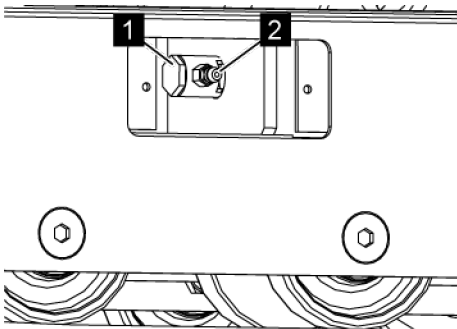
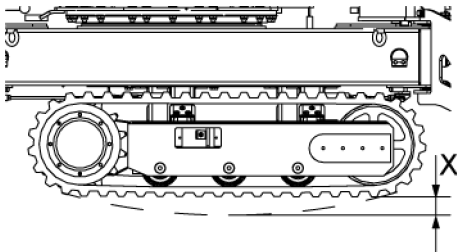

Fig. 212: Turning the slide coupling
Fig. 213: Slack X
5. → Turn the slide coupling (Fig. 212/1) by 180° clockwise until the grease nipple (Fig. 212/2) points outward.
6. → Apply a grease gun to the grease nipple (Fig. 212/2) and inject a sufficient quantity of multi-purpose grease (article no. 3917/0095) so that the chain slacks (Fig. 213/X) by 10–15 mm.
7. → Make sure that no lubricant escapes from the grease nipple (Fig. 212/2).